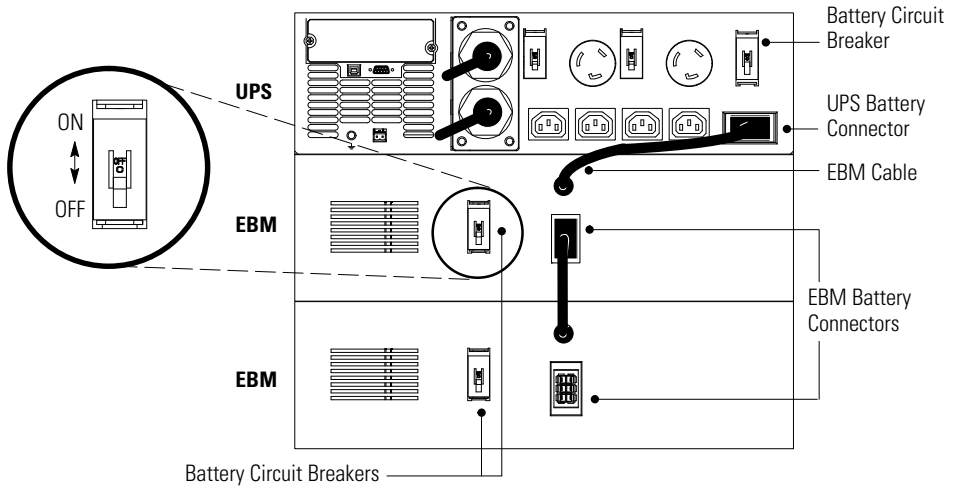

Figure 31. EBM Connections
NOTE *If the UPS requires any type of transportation, verify that the battery circuit breaker on the UPS rear panel is in the OFF (O) position (see Figure 31 on page 58).*
1. Switch all battery circuit breakers to the OFF position (see Figure 31).
5. Plug the EBM cable into the UPS as shown in Figure 31.